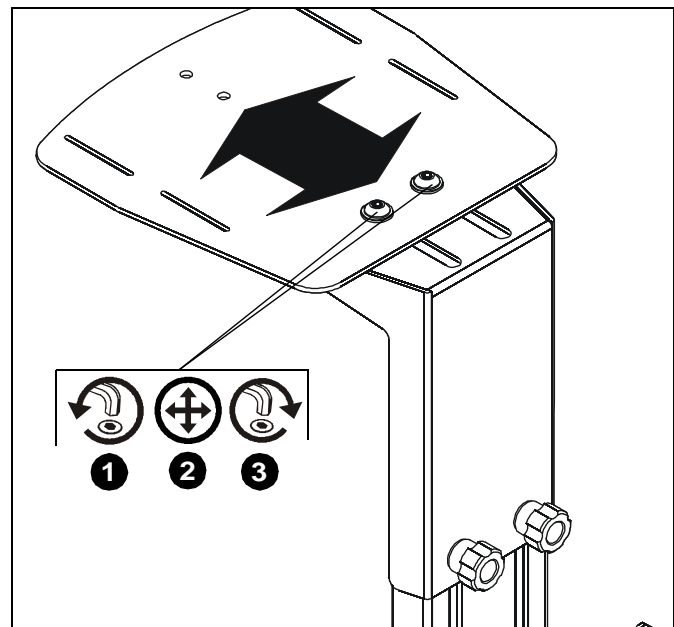

Figure 5
1. Loosen two button head cap screws on video conferencing shelf (A). (See Figure 5)
2. Adjust shelf to desired mounting position. (See Figure 5)
3. Tighten two button head cap screws on shelf until mount is secure. (See Figure 5)